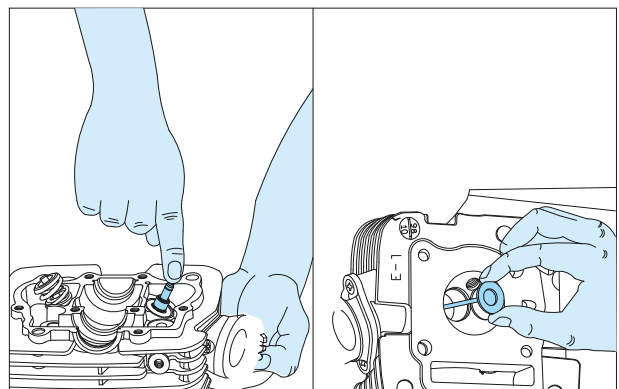

Fig. 3.65
- Gently, push down the valve from top and remove the valve from the combustion chamber side.(Fig. 3.65)